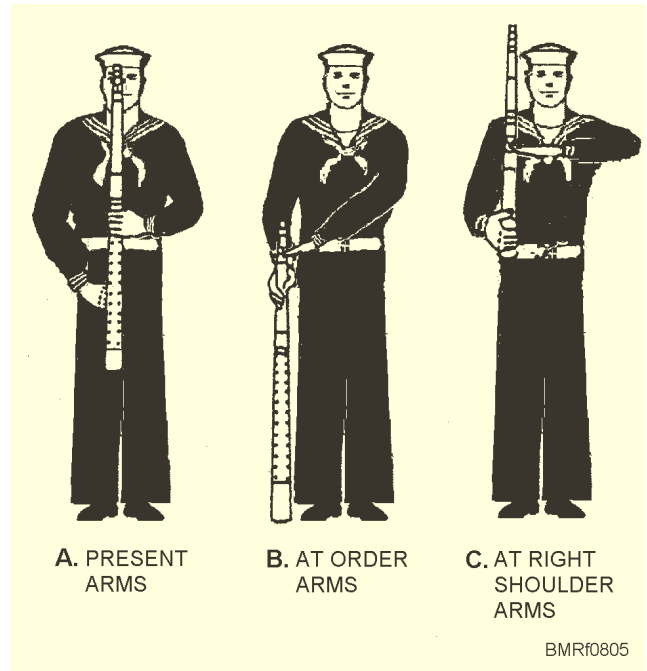

Figure 9-5.—Rifle salutes.
1. Present arms (fig. 9-5, view A)
2. Rifle salute at order arms (fig. 9-5, view B)
3. Rifle salute at right shoulder arms (fig. 9-5, view C)